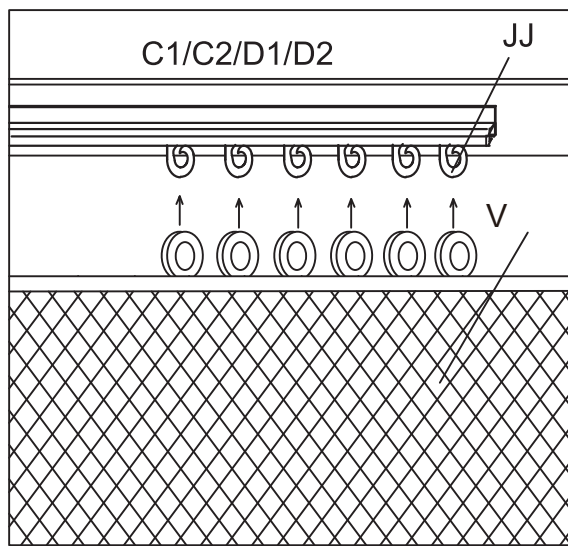

Figure 17-1
17.1: Hang the Mosquito Net (V) to the Mosquito Net Hooks (JJ). Hanging on the inner side of the track, Repeat for all sides. See Figure 17-1 .